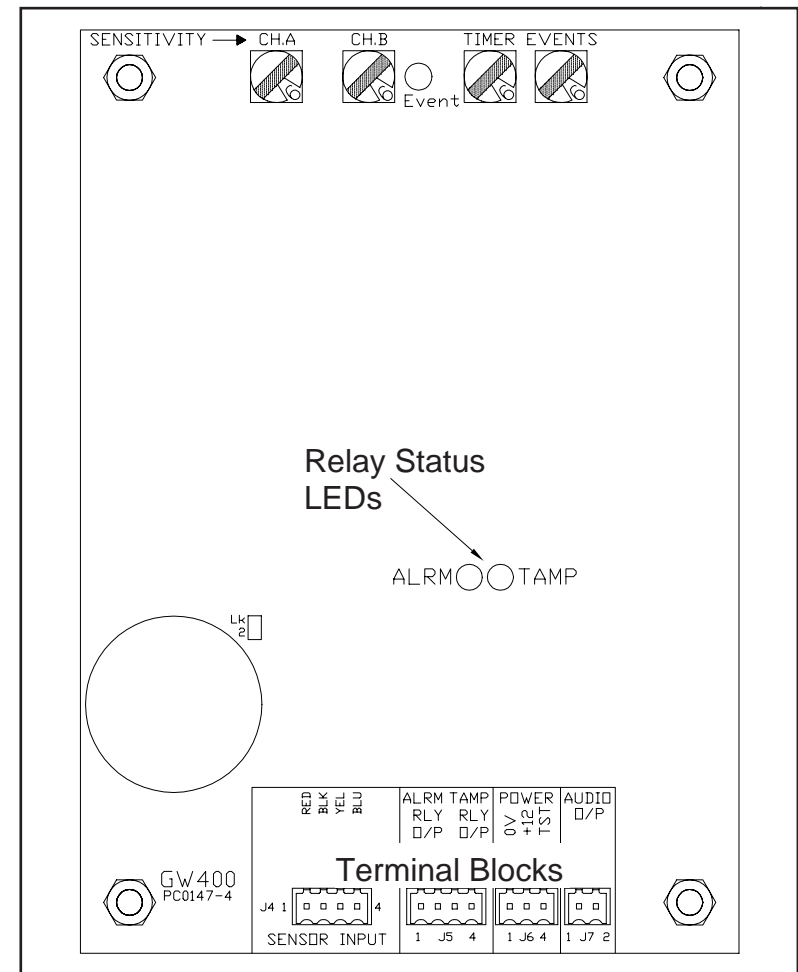

Figure 1
1. Remove the lid of the analyser housing and fasten down the tamper microswitch with a piece of adhesive tape or a small tie-wrap. Identify the sensor terminal block on the analyser PCB i.e. the left hand, four way, block marked J4. See Figure 1.
and also the earth wire from the 6mm ground stub on the bottom end of the box. See Figure 1.